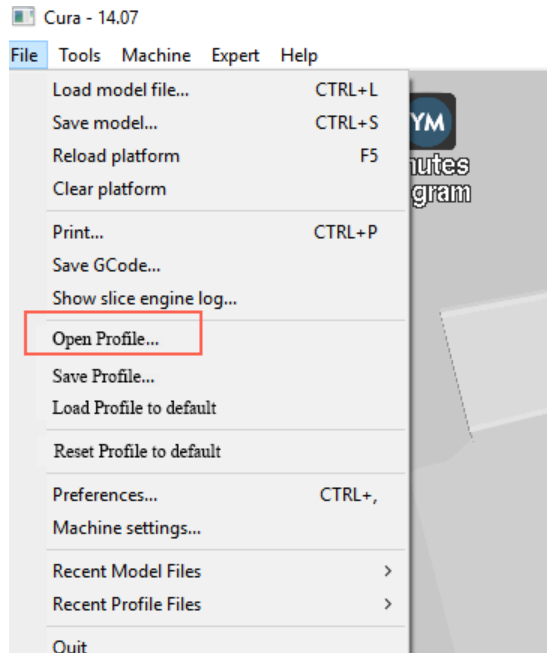

Figure 5.106 Import slice parameters
- Set slice parameters, and select File > Open Profile to import these parameters, as shown in Figure 5.106.